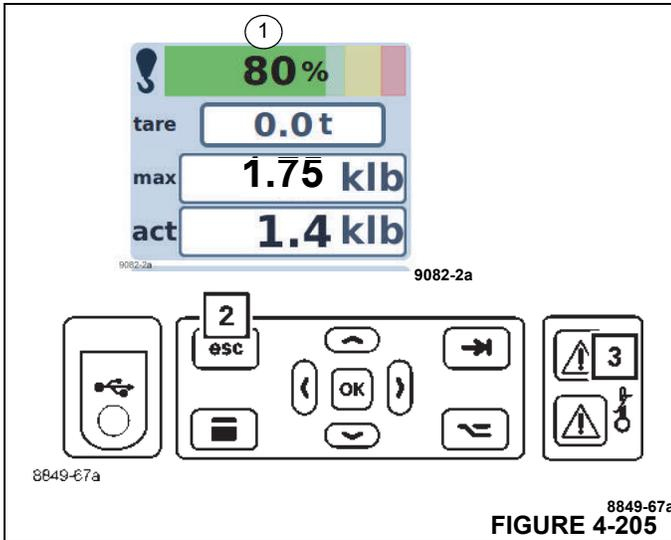

FIGURE 4-205
- An intermittent buzzer tone will sound. After five seconds, you can switch off the buzzer tone using button (2, Figure 4-205).
- The lamp (3) lights up.
- Display (1) shows the current degree of utilization, e.g. 80%; the bar is green.